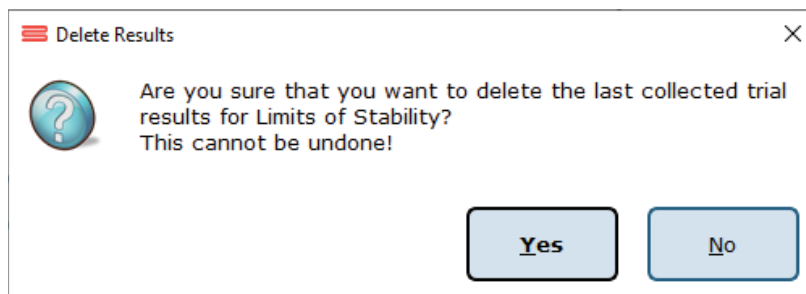

Figure 25: Delete Trial Verification.
2. In the popup window that appears, shown in Figure 25, choose either Yes, I want to delete the last collected trial, or No, I do not want to delete the last collected trial.